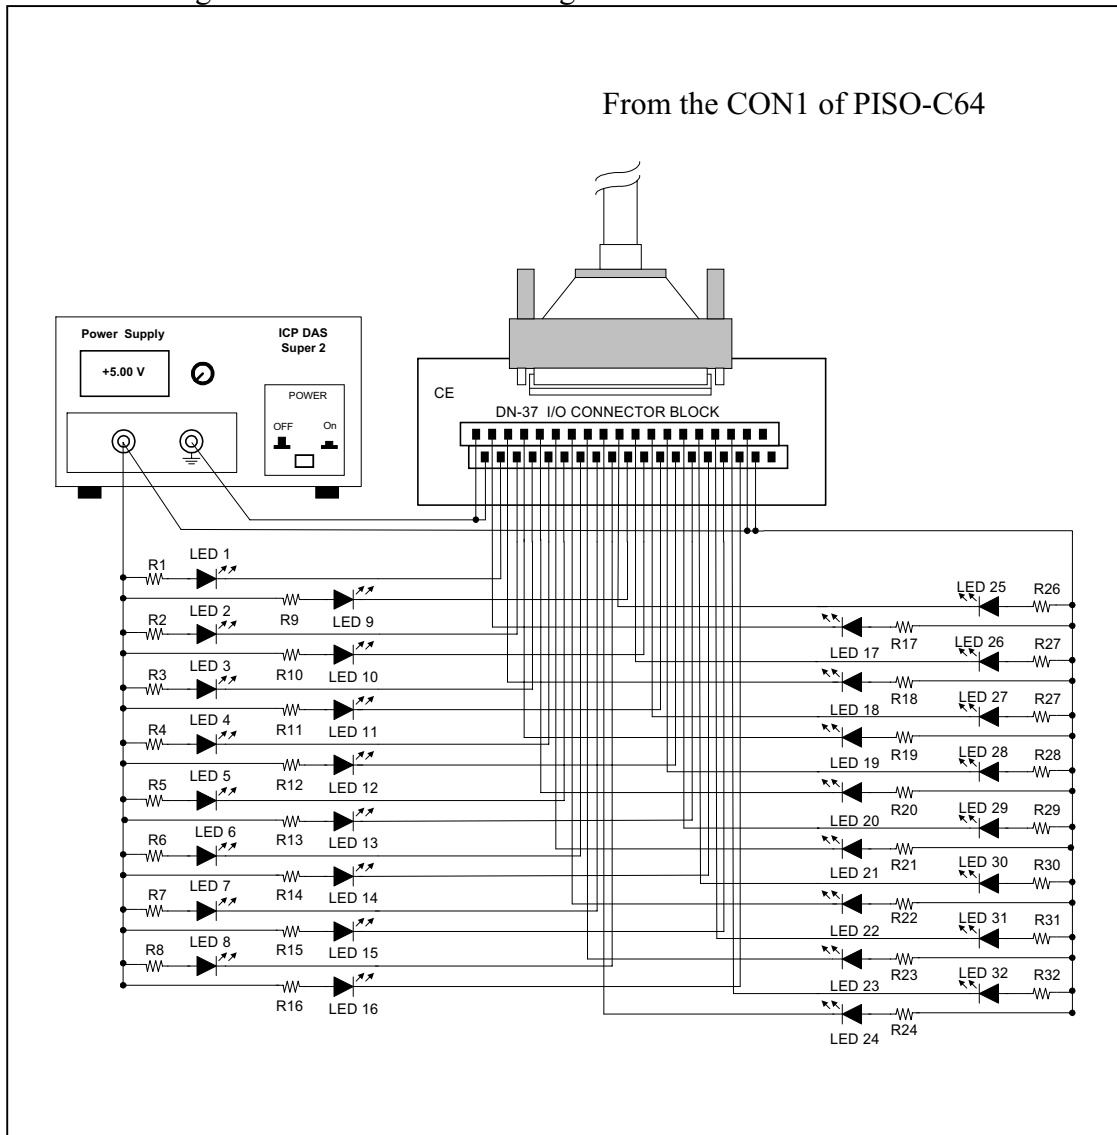

Figure 4-3-2. The circuit diagram of external device 1 for the digital outputs of PISO-C64
- The circuit diagram of external device 1: Refer to Figure 4-3-2